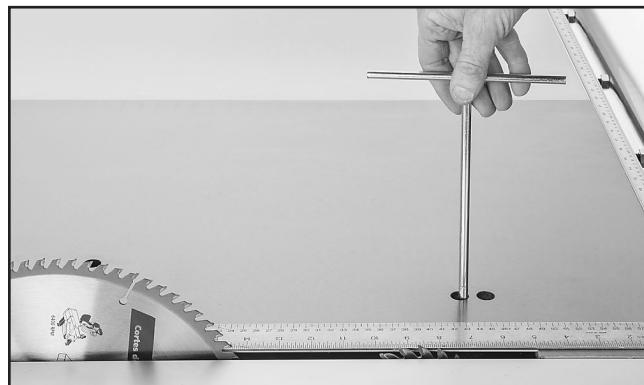

Figure 91. Adjusting vertical height of scoring blade.
- Insert T-handle wrench into left hole shown in **Figure 91**, engaging it with adjustment bolt under table, then rotate wrench to position scoring blade so edge of scoring blade teeth are aligned with main blade teeth.